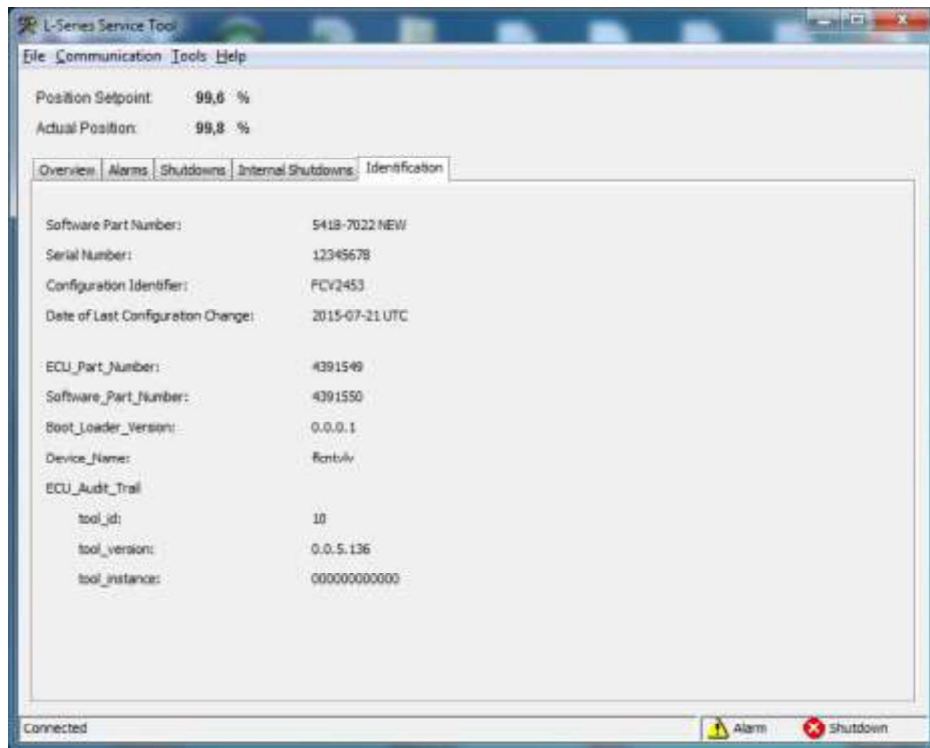

Figure 4-15. Service Tool—Identification Tab
- Identification (Figures 4-15)
To monitor the L-Series product identification, go to the Identification (Figure 4-15) page on the main window.*